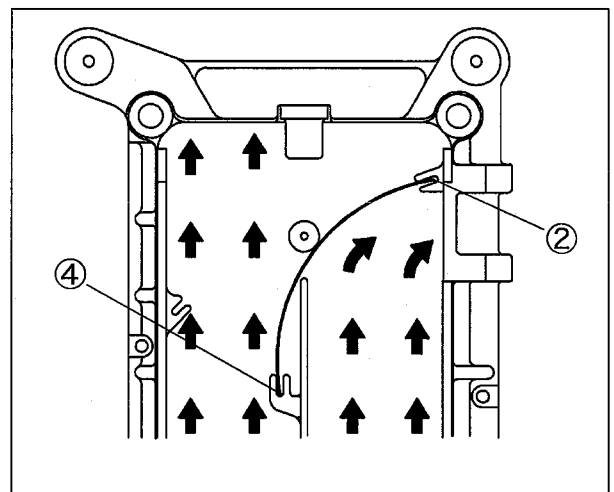

Fig. 3
At high speed and less dust during sewing, insert the air deflector ① into the guides ② and ④. (See Fig. 3)